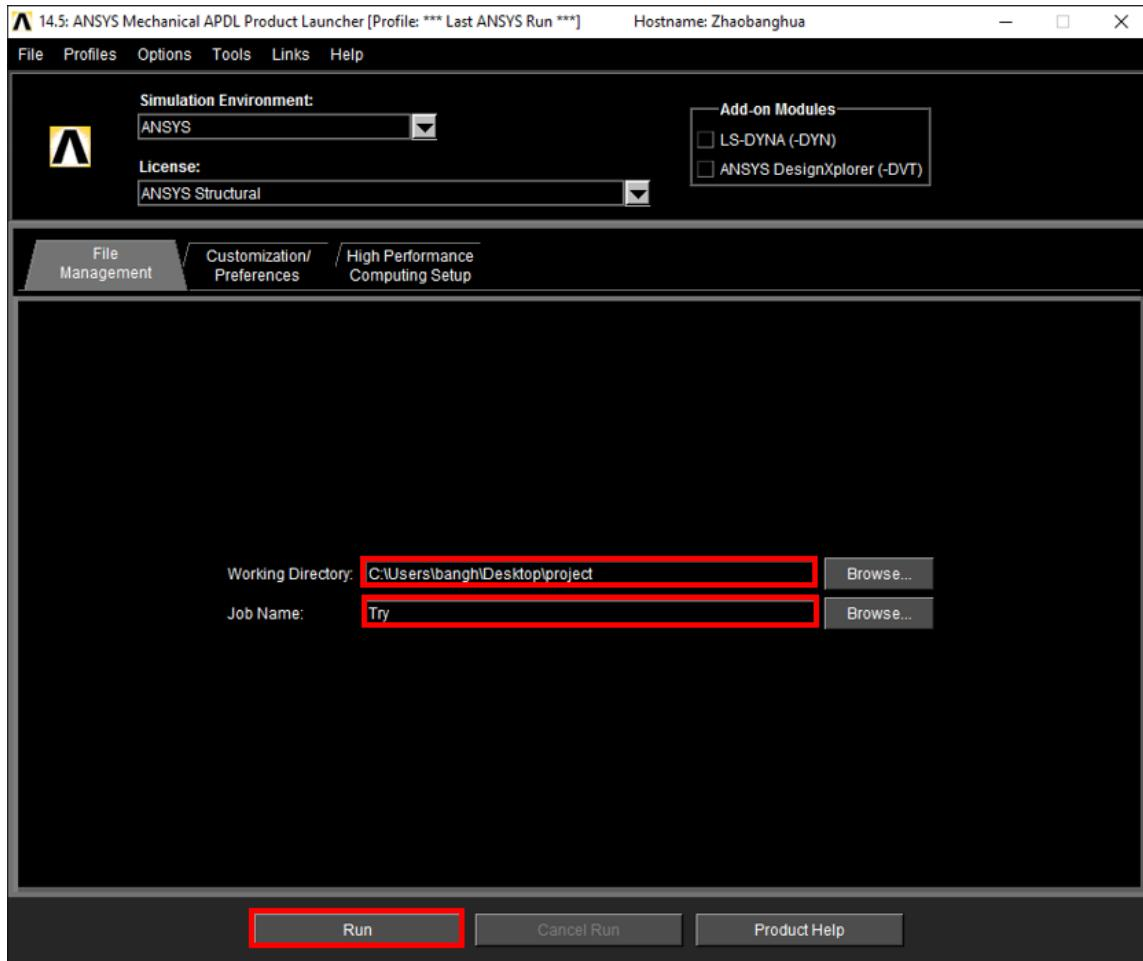
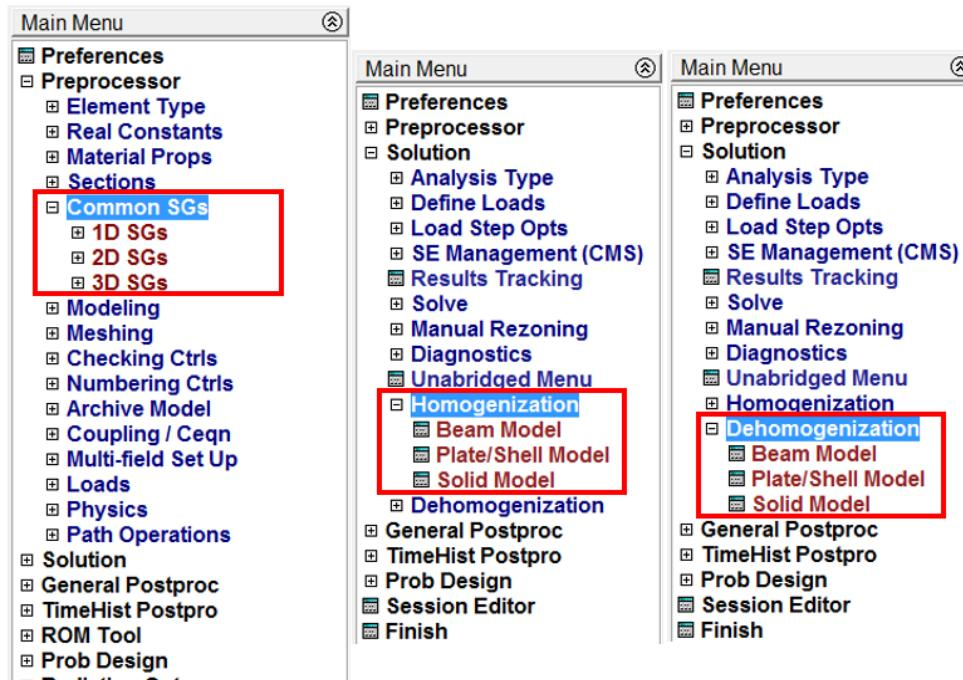

Figure 1.2 Mechanical APDL Product Launcher 14.5
Figure 1.3: Customized menu structure for ANSYS-SwiftComp GUI
**Step 3.** Launch *Mechanical APDL Product Launcher* ### (### is the version number of the ANSYS). Type in your Working Directory and your Job Name. For example, Launch *Mechanical APDL Product Launcher 14.5*. Type in *C:\Users\bangh\Desktop\project* for Working Directory and *Try* for Job Name (see Figure 1.2).
**Step 4.** Click *Run* bottom (see Figure 1.2) and check the Main Menu on the left side of ANSYS window. If everything is correctly followed from Step 1 to Step 4, newly added menus and functions will appear as shown in the red frames in Figure 1.3.